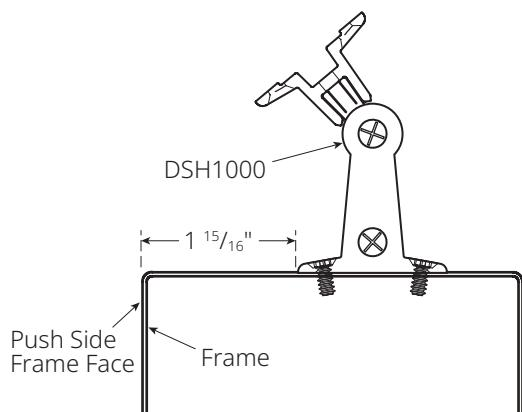

Fig. 1
1. On hinge jamb side, scribe vertical lines at top and bottom of opening, $1\frac{15}{16}$ " from push side of door frame face as shown (Fig. 1).